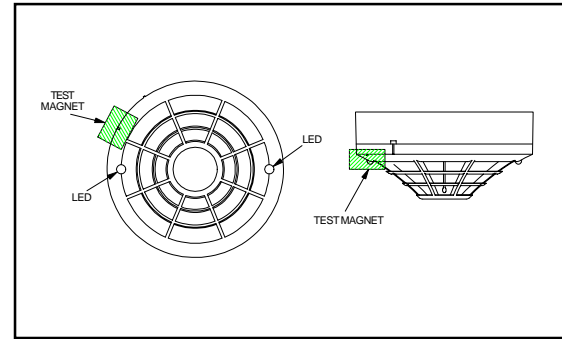

Figure 2. Test Magnet Positioning.
1. Test the sensor by positioning the optional test magnet against the sensor body approximately 2 cm from LED in a clockwise direction, as shown in Figure 2.